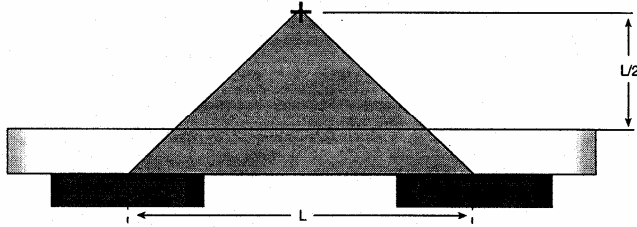

Figure 3a — Payload center of gravity should be no higher than $\frac{1}{2}$ the shortest spacing between isolators.
- g. The payload center of gravity should be no higher above the piston feet than $\frac{1}{2}$ the distance between the closest modules (Figure 3a) and within the triangle shown in Figure 3b. Higher center of gravity locations can result in system oscillation.